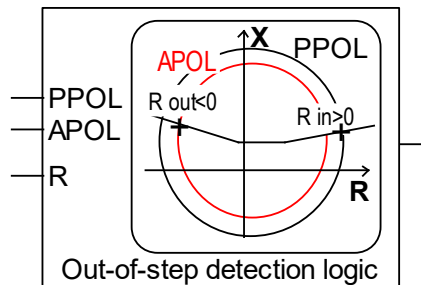

Figure 2-4 Out-of-step detection scheme .
- if there the resistance exits the inner zone with a sign opposite to the one when entering the zone (see also the device drawing shown in Figure 2-4)